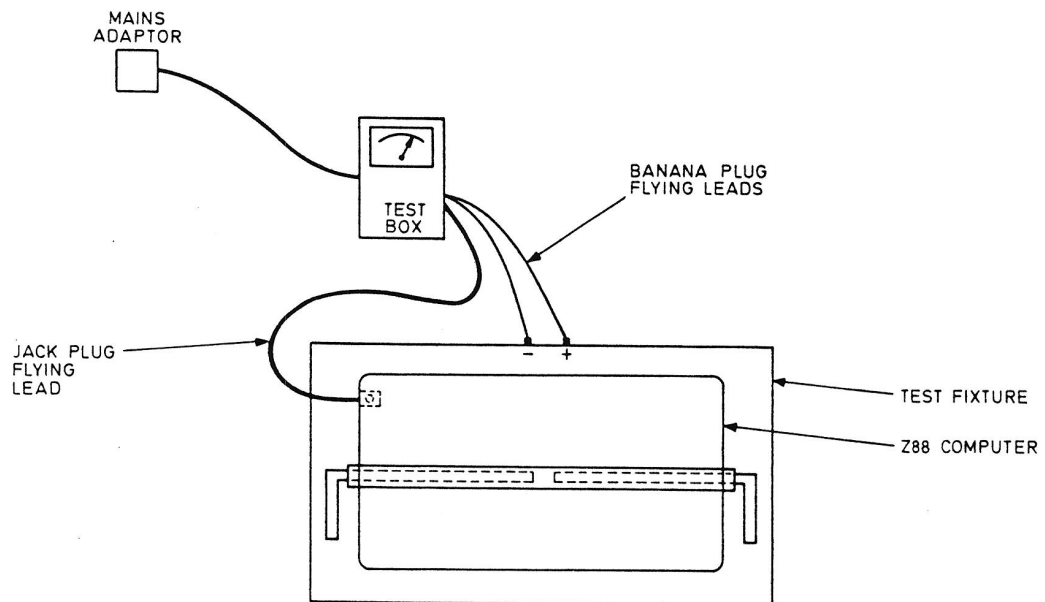

FIGURE 3.1 TEST FIXTURE CONNECTIONS
- 2.4.2 Connect up the test rig as shown in Figure 3.1.